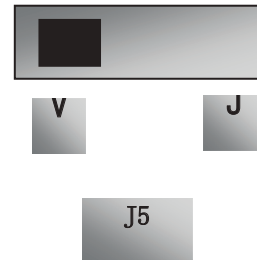

Figure 8-5
- xi. Analog output terminal AO1 can output voltage and current signal, the selecting switch is J5, please refer to Figure 8-5 the output relation is shown in Table 8-3.